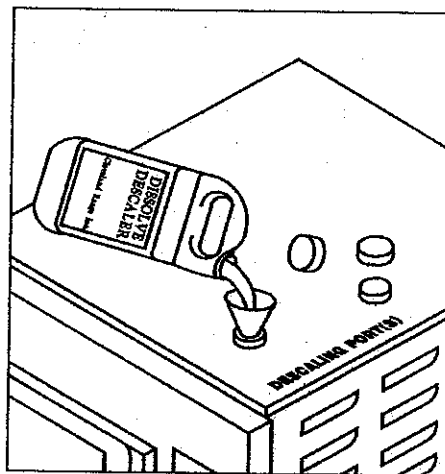

Figure 6-1 Descaler inlets
7. While the unit is filling with water, remove the descaling port plug(s) located at the top of the unit (See Figure 6-1), and add 1 gallon of *DISSOLVE*® descaler solution (P/N 106174) to each port.